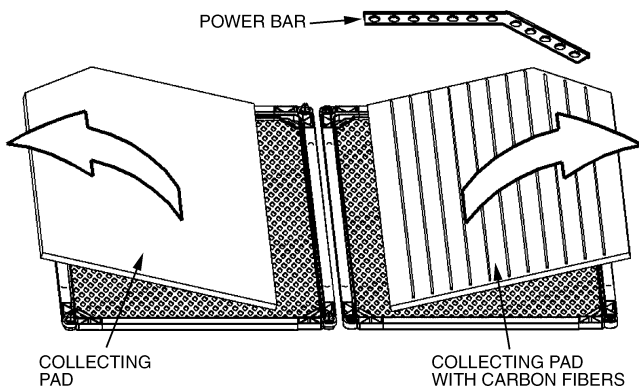

Fig. 5 — Collecting Pad Removal
4. Lay the electronic air cleaner down. Open up the frames so the collecting pads are exposed. See Fig. 5.
5. Remove the power bar. Remove and discard both collecting pads. See Fig. 5.